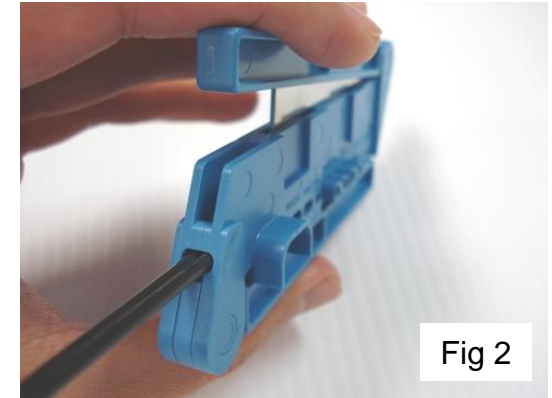

Fig 2
- Split the cable jacket as shown in Figure 2 and separate the zipcord approximately 2".